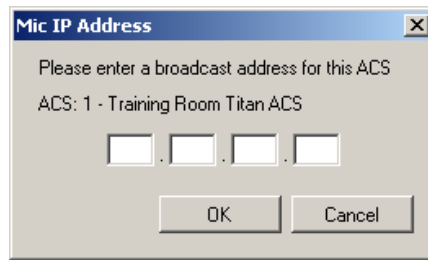

Figure 6-18: Enter Broadcast Address Window
**Note:** An IP address must be assigned to the mic station in Enterprise for this process to work. If an IP address is not present or a broadcast address is not associated with the announcement controller, then a prompt will appear for a broadcast address as shown in Figure 6-18. If prompted, enter the broadcast address for the announcement controller to begin the transfer.